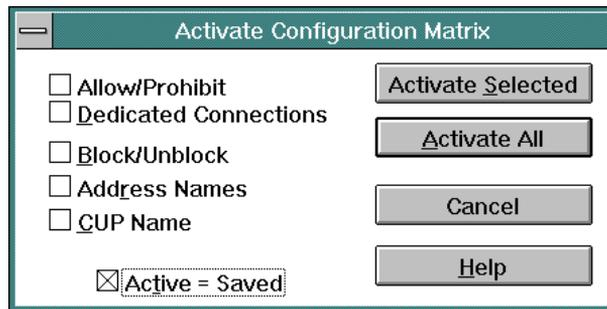

Figure 144. Activate Configuration Matrix Dialog Box
18. To install port attributes, select the *Activate Configuration Matrix* option from the *File* menu or press the **F6** key. The *Operator Authorization* dialog box appears. Type an operator authorization password (default is **LEVEL003**) and click the *OK* button. The *Activate Configuration Matrix* dialog box appears (Figure 144).